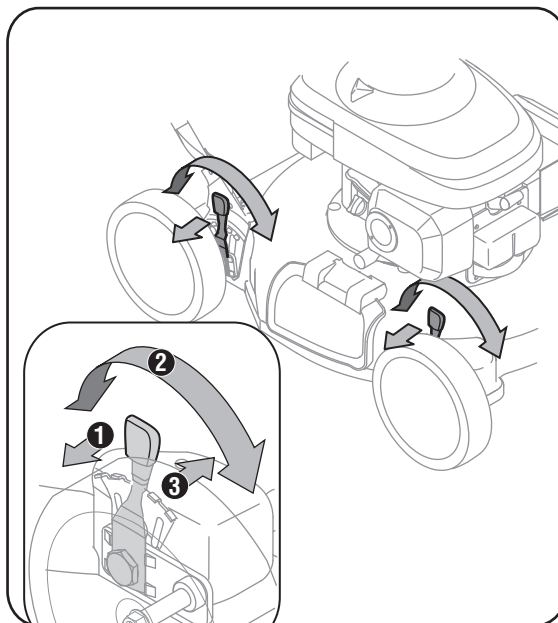

Figure 5
5. Each wheel has a height adjustment lever to change the cutting height of the mower. To change the height of cut, squeeze adjuster lever toward the wheel, moving up or down to selected height. See Figure 5.